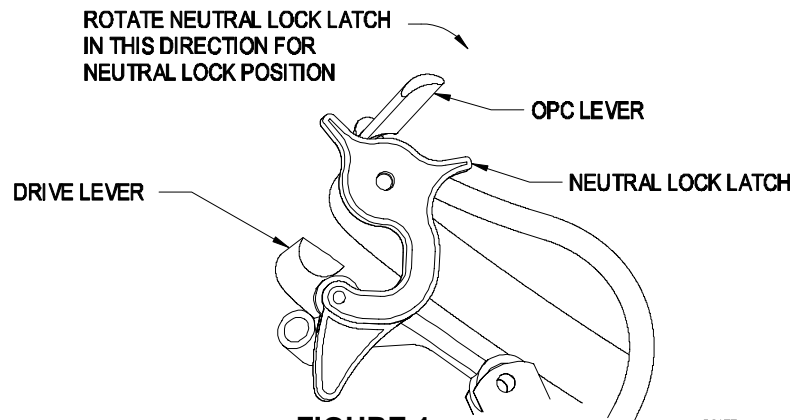

FIGURE 1
3.1.2 Operator Presence Control (OPC) Levers: Located on the upper handle assembly directly above the handle grips. See Figure 1. **When these levers are depressed, the OPC system senses that the operator is in the normal operator's position. When the levers are released, the OPC system senses that the operator has moved from the normal operating position** and will kill the engine if either the speed control lever is **not in the neutral** position or the **PTO is engaged**.
3.1.4 Drive Levers: Located on each side of the upper handle assembly directly below the handle grips (See Figure 1). These levers individually control the speed and direction of each drive wheel. When the speed control lever is moved out of the neutral position and the neutral lock latches are moved into the drive position, as shown in Figure 1, and the drive levers are released, the drive wheels are engaged in the forward direction.
3.1.5 Neutral Lock Latch: Located at the end of the handles. The purpose of these latches is to allow the operator to lock the drive levers in a "neutral" position where neither of the drive wheels are engaged in either a forward or reverse direction (See Figure 1).